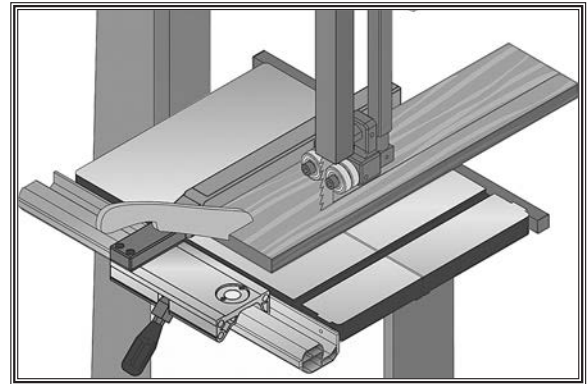

Figure 76. Example of a ripping operation.
3. After all safety precautions have been met, turn bandsaw **ON** and wait for it to come to full speed. Slowly feed workpiece into blade until blade is completely through workpiece. **Figure 76** shows an example of a ripping operation.